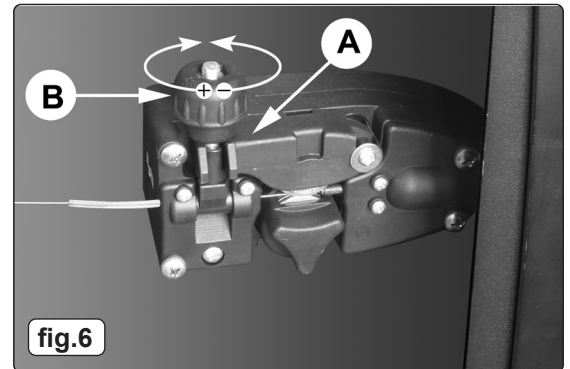

fig.6
- 4.4.6. Referring to fig.6, move the pressure roller moulding (A) back round onto the grooved drive wheel and swing the wire tension screw (B) up to lock it in place. See 4.6 regarding wire tension.
- 4.6.1. For mild steel 0.6mm wire the wire tension screw must be fully tightened and undone approximately two complete turns (fig.6).